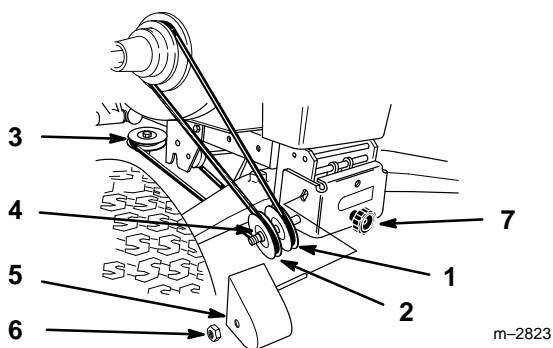

Figure 29
2. Turn knob on idler assembly clockwise to loosen belt (Fig. 29).
3. Remove locknut and belt cover from idler assembly. Remove belt from upper mower pulley (Fig. 29).